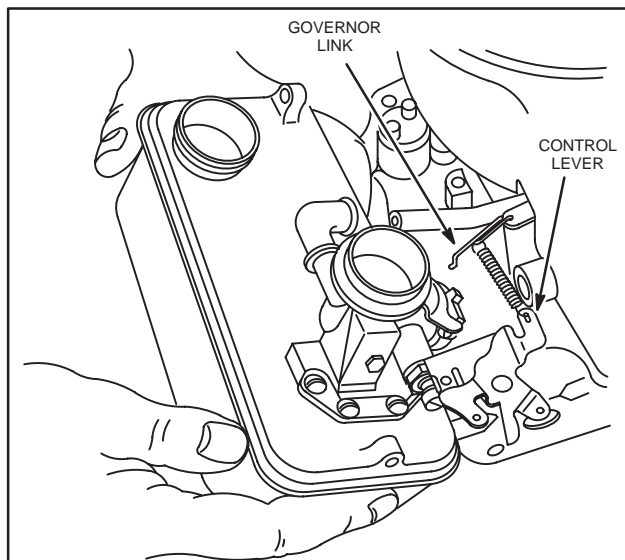

Fig. 221 – REMOVING CARBURETOR AND TANK ASSEMBLY
3. This will leave governor link and governor spring connected to governor blade and control lever, Fig. 221.